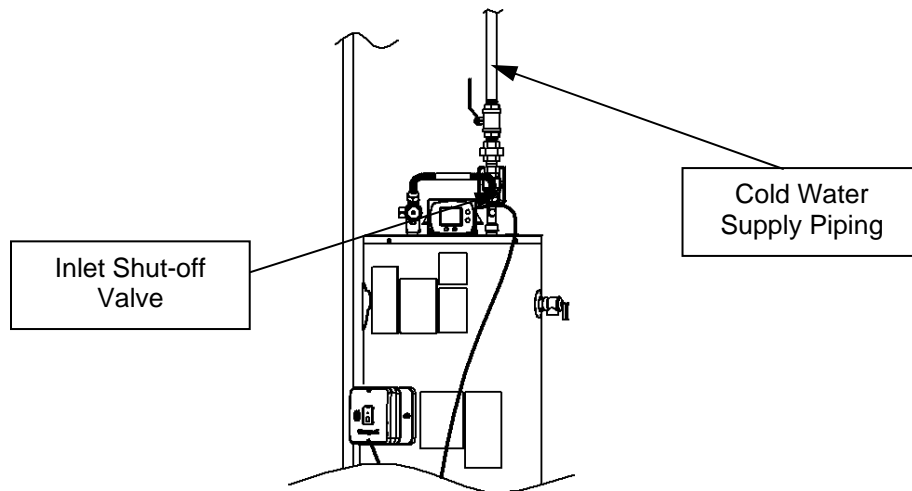

Figure 74
Step 7: Pipe the cold water supply piping to the Inlet Shut-off Valve inlet, as shown in Figure 74.